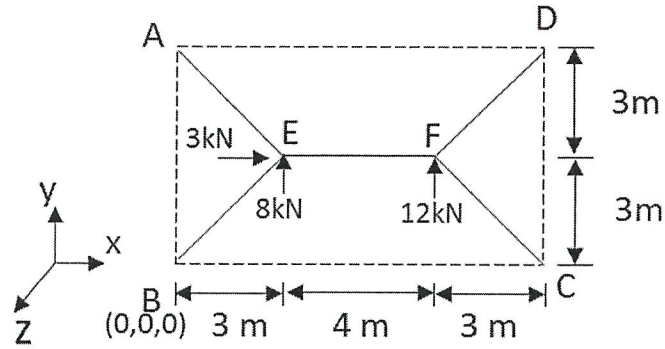

Figure Q5(c)
- (c) A space frame in **Figure Q5(c)** are connected at A, B, C and D in a horizontal plane through ball and socket joint. The member of EF is at height of 5m above base and load at joint E and F act in a horizontal plane. Calculate internal forces in all members. (16 marks)